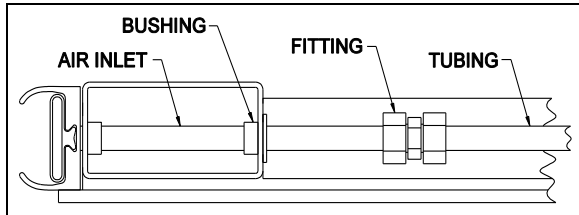

FIGURE 31 : REAR SLIDE-OUT INFLATABLE SEAL AIR INLET
2. Unplug the tubing from the inflatable seal air inlet (FIGURE 31). Keep the bushing.
9. Replace the bushing and plug the pneumatic tubing on the inflatable seal air inlet (FIGURE 31).